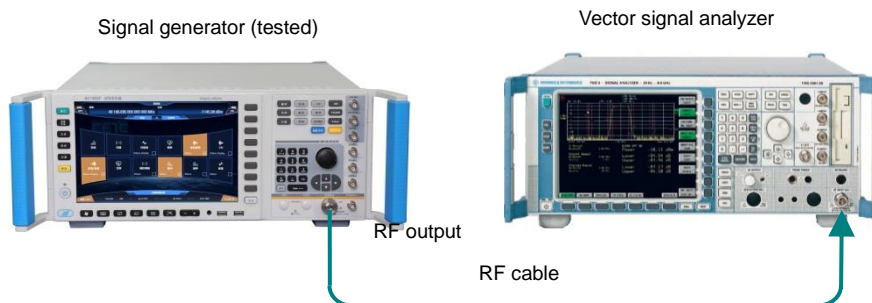

Figure 8.9 EVM and Original Offset Test
**Step 2. Connect the device as shown in Figure 8.9.**
The same as the Figure 8.9